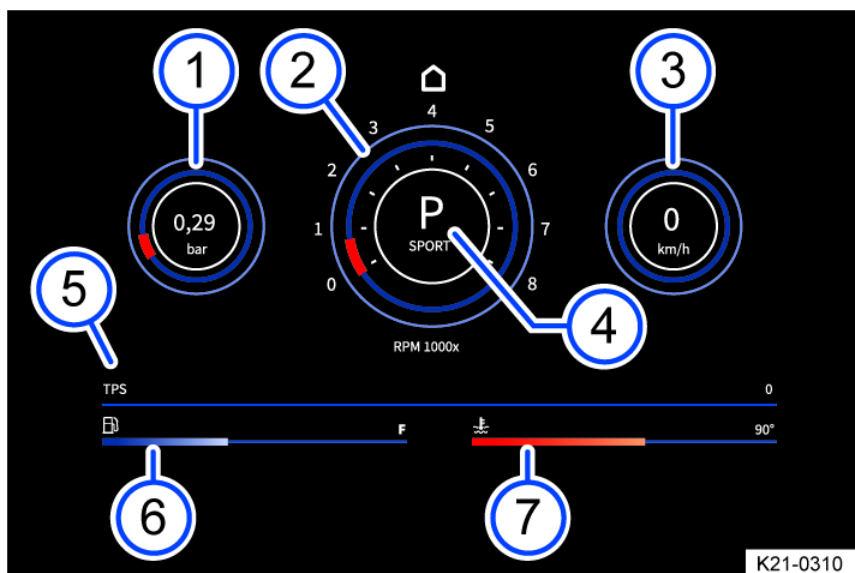

Fig. 17 On the Infotainment system screen: performance monitor.
- **Boost pressure indicator:** the boost pressure indicator fig. 17 (left) displays the boost pressure between the turbocharger and the engine in bar. The fuller the bar on the display, the more engine power is being used.
- **Tachometer:** The tachometer fig. 17 specifies the engine revolutions per minute.
- **Speed display:** The speed display fig. 17 shows the speed currently being driven at in km/h.
- **Gear indicator:** The gear indicator fig. 17 shows the currently engaged gear or selected lever position.
- **TPS display:** The TPS display fig. 17 shows the throttle position. The horizontal bar moves right when the accelerator pedal is pressed.
- **Fuel gage:** This display fig. 17 is synonymous with the fuel display on the Volkswagen Digital Cockpit. If the vehicle is consuming fuel, the horizontal bar moves left.
- **Coolant temperature gage:** This display fig. 17 is synonymous with the temperature display on the Volkswagen Digital Cockpit. If the engine is exposed to excessive load or high outside temperatures, the horizontal bar moves right. This is not a cause for concern as long as the  indicator light in the instrument cluster display is off or blinking.